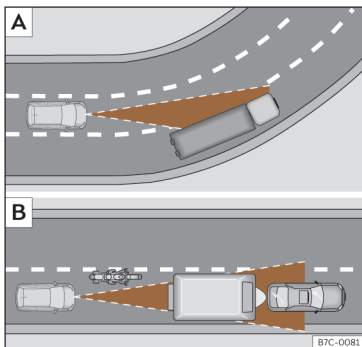

Fig. 176 [A] Vehicle on a bend. [B] Motorcyclist ahead, out of range of the radar sensor.
The ACC may not detect the vehicle in front on a curve, or may regulate the distance from vehicles in other lanes » **Fig. 176** [A].
- Vehicles that are not aligned while driving or that are outside the sensor's detection area, such as motorcycles » **Fig. 176** [B].